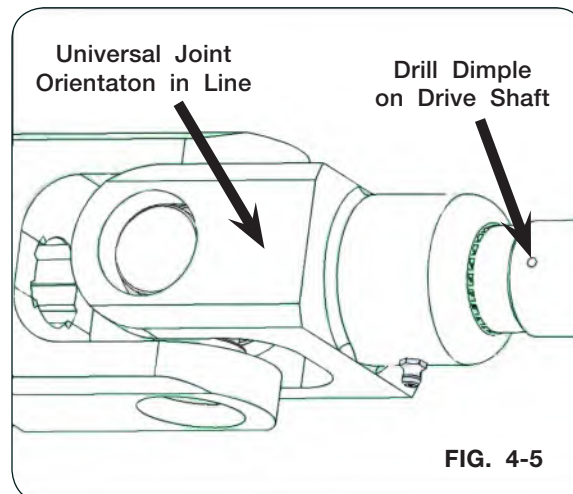

FIG. 4-5
13. With bearing mounting hardware completely tightened, drill a setscrew dimple in the driveshaft by going through the bearing setscrew threaded hole to dimple the drive shaft being careful not to damage threads. Drill the dimple to a depth that setscrews are flush with the bearing prior to applying thread locker and installing setscrews. (FIG. 4-5)
14. For alignment of the yoke, the orientation of the universal joint at the gearbox must be in line with the driveshaft drill dimple when the driveline assembly is attached. (FIG. 4-5, 4-6, and 4-7)